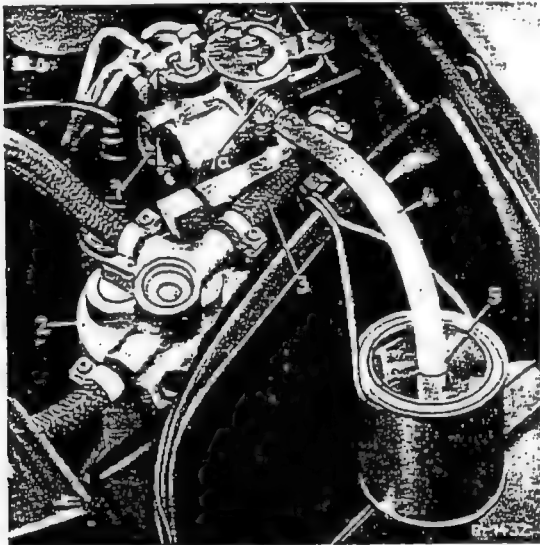

Fig. 32-19/3
ary position no air should escape via the exhaust line. If air escapes nevertheless, this is a sign that there is a leak in one of the leveling valves (Fig. 32-19/3).
11. In order to determine which one of the leveling valves has a leak, disconnect the exhaust line (2) (Connection A) at the valves and instead connect the hose (3) of the water jar (4) (Fig. 32-19/4).